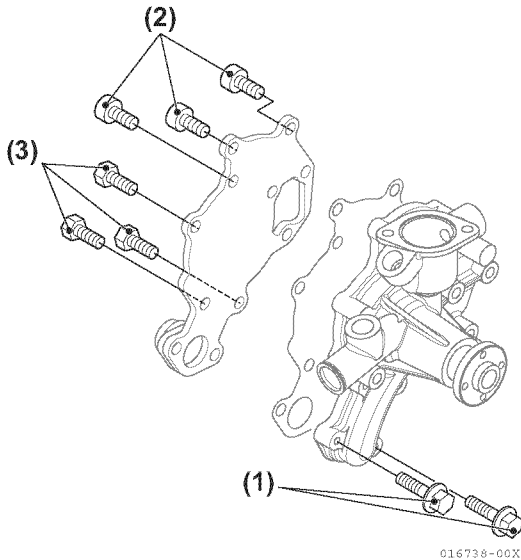

Figure 7-29
9. When installing coolant pump assembly to cylinder block, tighten two bolts (M6 x 20) at cylinder block inlet to specified torque (**Figure 7-29, (1)**).
Note: When replacing coolant pump and pump cover, tighten M6 bolts to specified torque (**Figure 7-29, (2), (3)**).